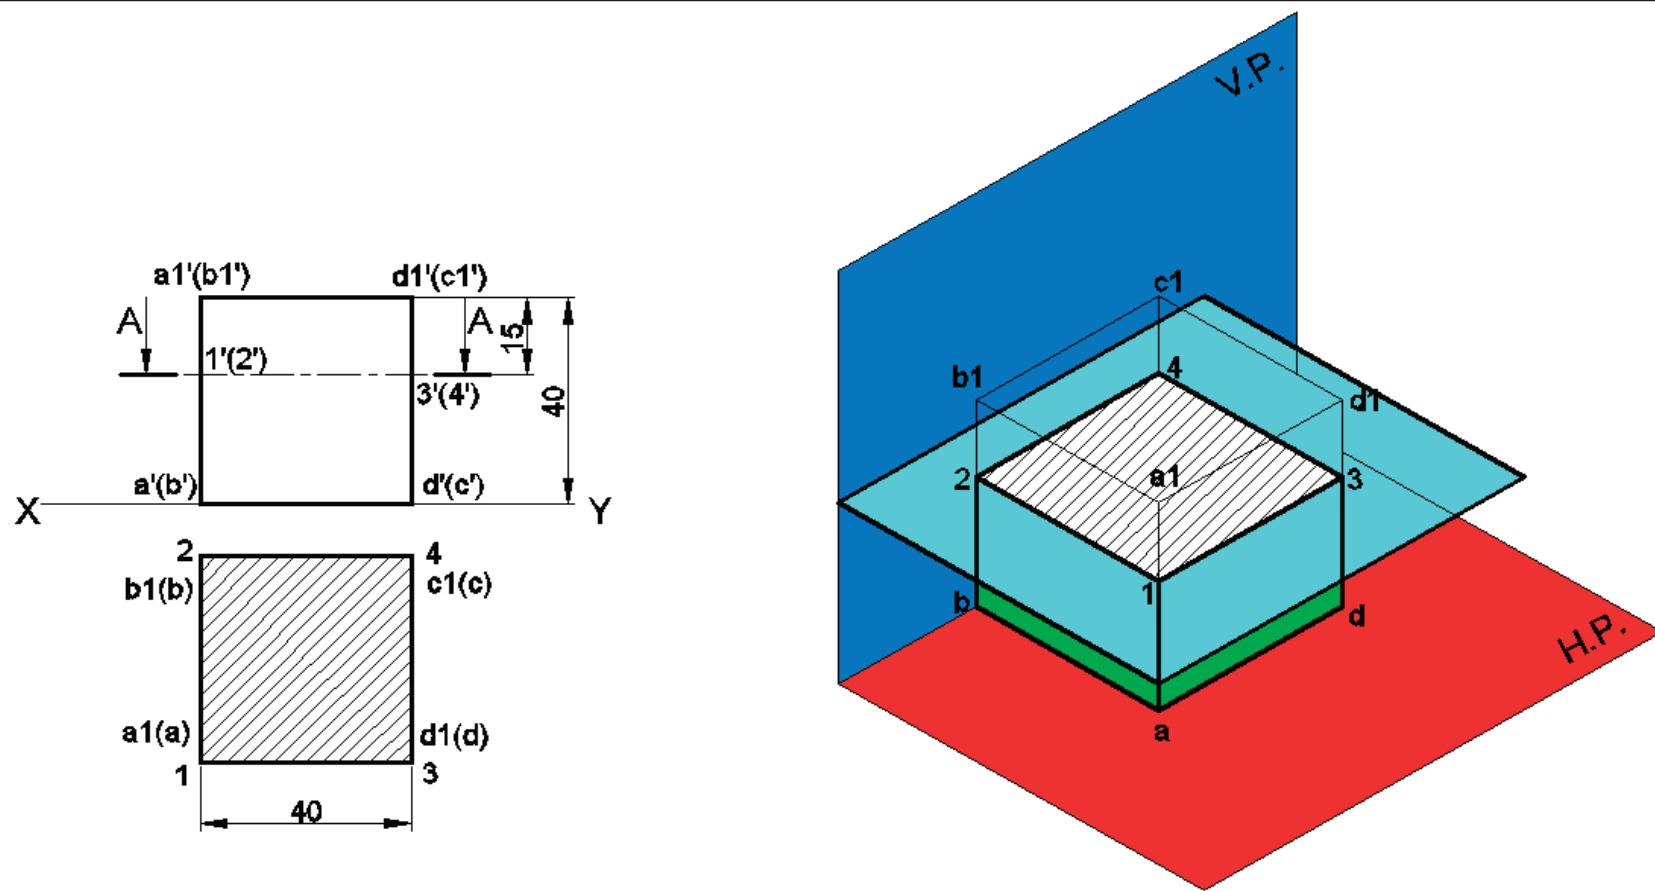

Fig. 5.16
Solution : Refer to fig. 5.16 (a)
2. In the Front View, draw the section plane parallel to X - Y line (HP) at a distance of 15 mm from the top edge $a'1'-d'1'$.
3. Locate points of intersection (POIs), pts. 1', 2', 4' & 3' cutting edges $a'a'1'$, $b'b'1'$, $c'c'1'$ and $d'd'1'$ as shown pictorially in Fig. 5.16(b)